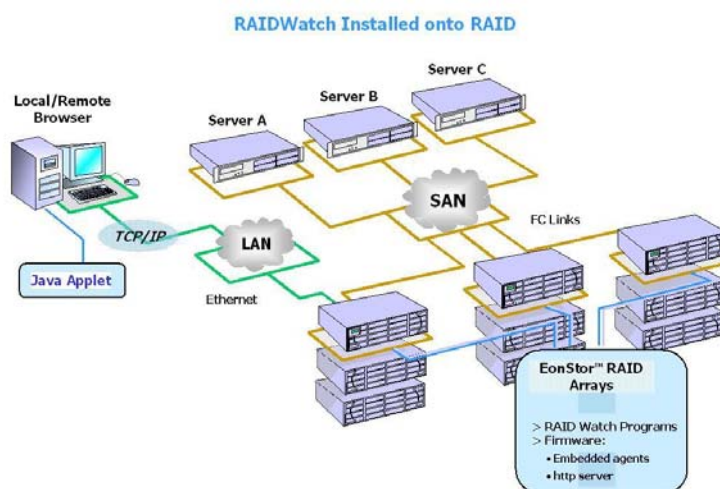

Figure 1-6: Typical RAIDWatch Connection – Applet Mode
3. **Stand-alone/Out-of-Band (on Host) Installation:** This installation provides management access with no centralized management utility. Event notification is provided through an independent NPC utility. RAIDWatch accesses RAID subsystems over the network through the command exchanges between a manager station and RAIDWatch programs that exist in array hard drives, (See *Figure 1-6*.) The management session and the NPC configuration screen are invoked as a Java Applet.